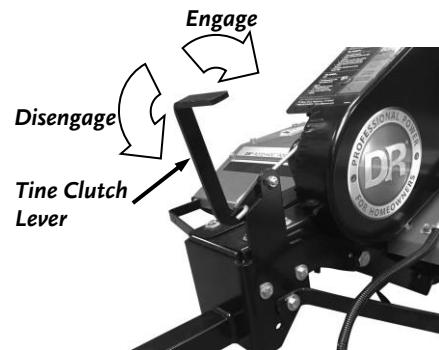

Figure 15
1. Push the Tine Clutch Lever towards the back of the machine to engage the Tines (*Figure 15*).
1. Pull the Tine Clutch Lever Forwards to disengage the Tines (*Figure 15*).